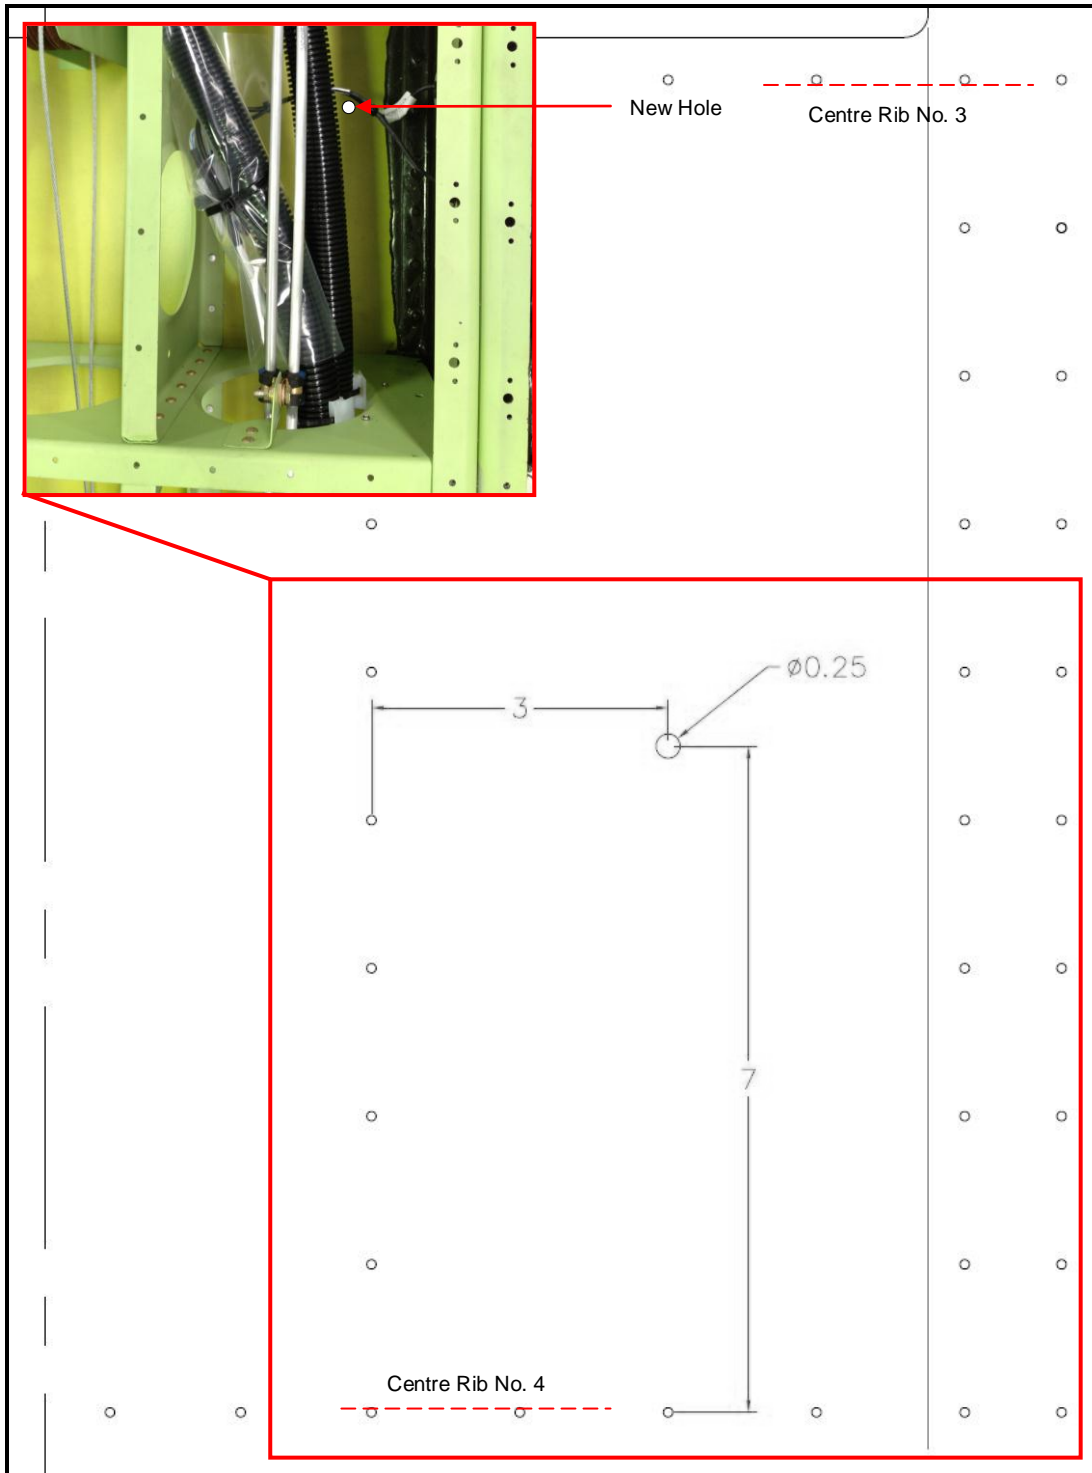

Figure 6: Hole 4 (Belly skin shown from above for clarity, DO NOT REMOVE FLOOR SKIN)
11. Drill ¼ in. hole through bottom skin located in board of sump tank, between centre rib no. 4 (GA8-532023-125) and centre rib no. 3 assembly (GA8-532013-055), Figure 6.